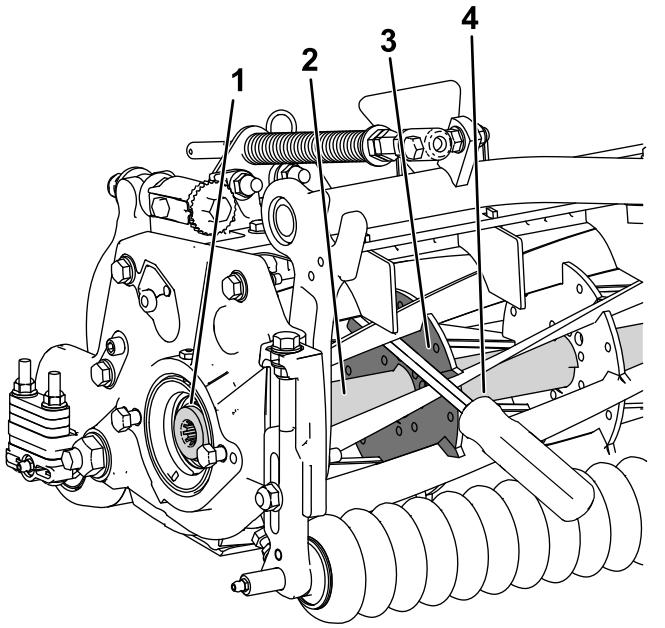

Figure 27
1. Insert a long-handled pry bar (recommended 3/8" x 12" with screwdriver handle) through the front of the cutting reel, closest to the side of the cutting unit that you will be torquing (Figure 27).
2. Place the pry bar against the weld side of the internal cutting reel reinforcement (Figure 27).